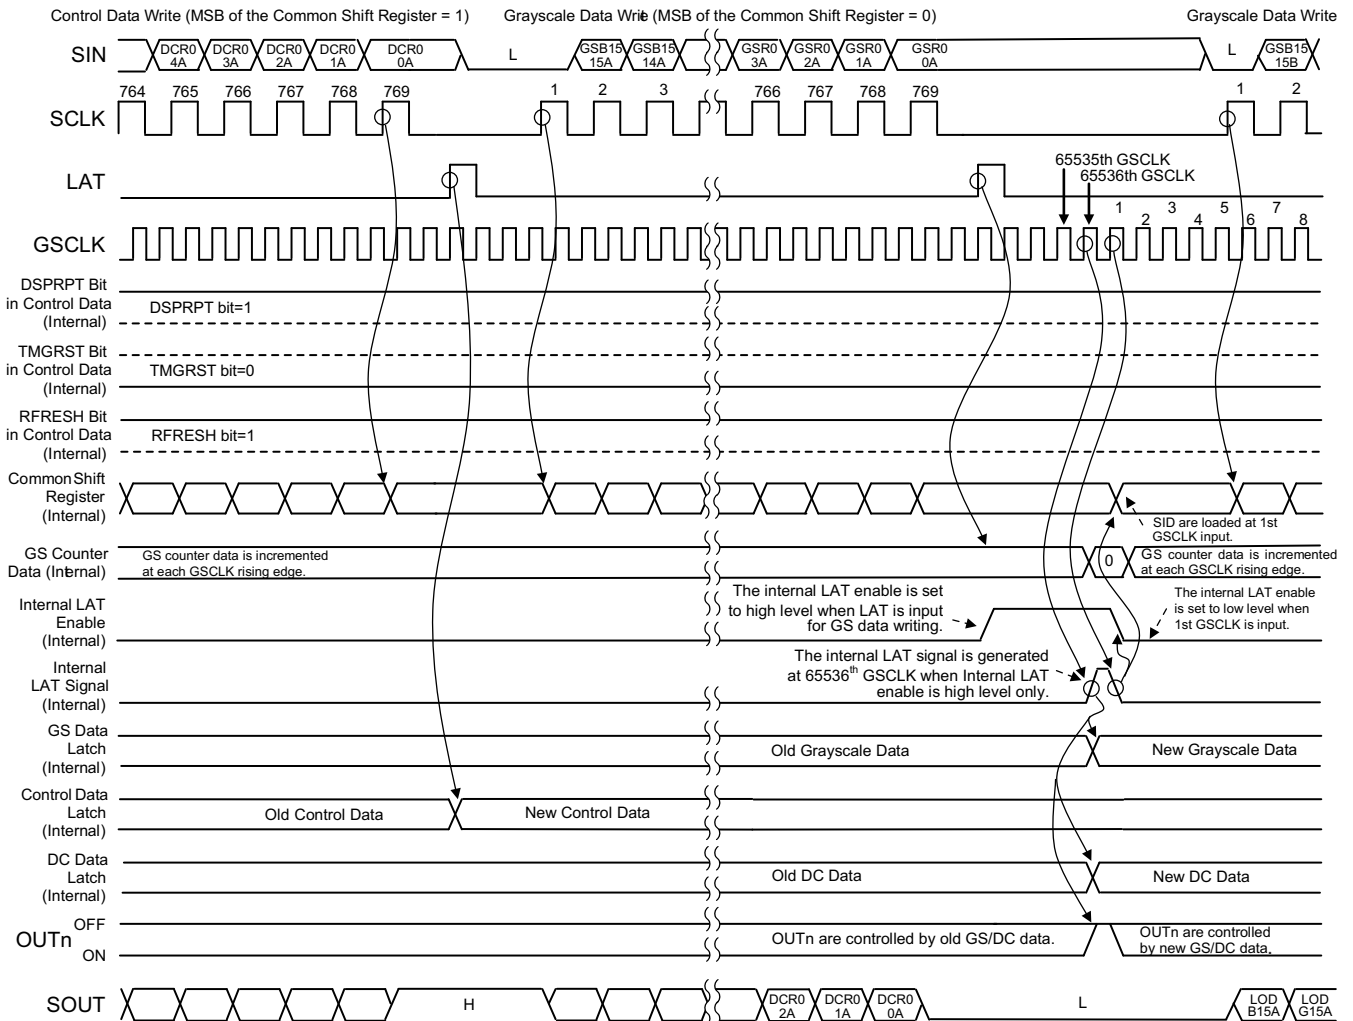
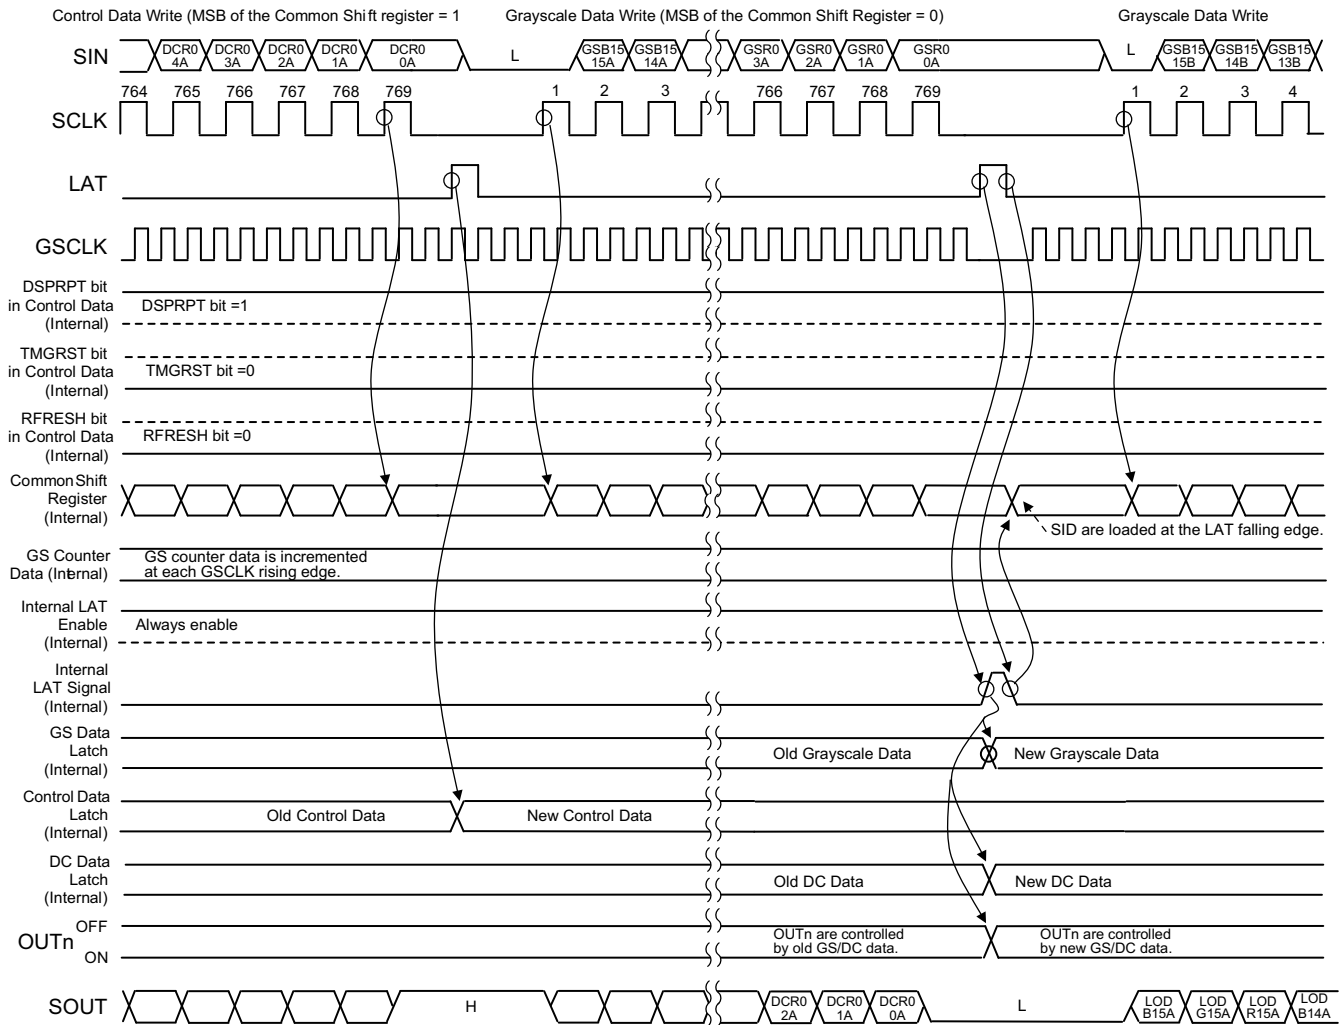

图 8-11. Auto Data Refresh Function 1 (DSPRPT = 1, TMGRST = 0, and RFRESH = 1)
图 8-12. Auto Data Refresh Function 2 (DSRPT = 1, TMGRST = 0, and RFRESH = 0)
This function delays updating the grayscale (GS) and dot correction (DC) data until the end of one entire display period. If both DC data and GS data are written by the end of an entire display period, the input DC data are held in the control data latch and the GS data are held in the common shift register. Both DC and GS data are copied to the 336-bit DC data latch and 768-bit GS data latch at the end of an entire display period. The data latches are used for the next display period. GS data are directly copied from the common shift register to the GS data latch. Therefore, GS data must be written after the DC data are written. Furthermore, the GS data in the common shift resistor must not be changed until all data are copied to the GS data latch. 图 8-11 and 图 8-12 show timing diagrams for this function.